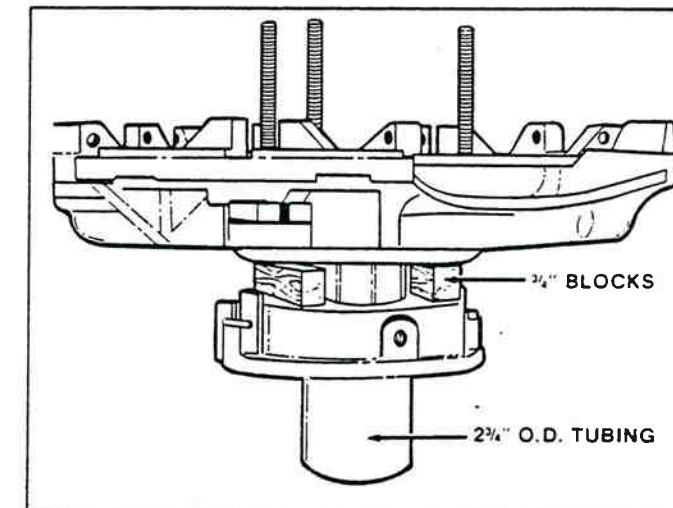

Figure 5-20. Install Wooden Blocks.
7. Install 3/4" (19 mm) wooden blocks between flywheel ring and release bearing housing. Place assembly on arbor press, supporting sleeve on 2 1/2"-2 3/4" O.D. (6.35-69.9 mm) tubing. Compress retainer to relieve load on hex nuts. Remove threaded rods and release load against wooden blocks (figure 5-20).